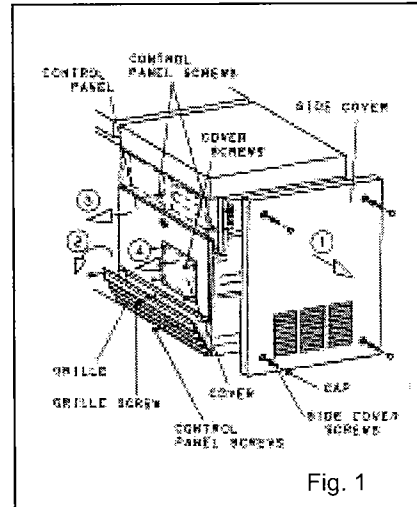

Fig. 1
1. Open the door and let down the lever of the penholder; the pen point is apart from the chart. (Fig. 1)
2. Remove the side cover by loosening four screws. (Fig.1)
3. After removing a grille screw, open the grille as shown in Fig. 1.
4. Remove the control panel by loosening two screws on the lower outside (A) and upper inside (B) of the control panel. (Fig. 1)
5. Detach the cover on the control panel by removing four screws. (Fig. 1)